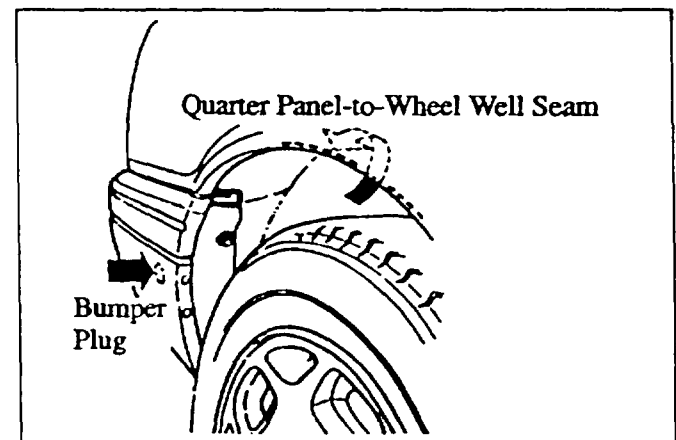

Figure 18: Bumper Plug and Wheel Test Area
- Inner wheel well-to-quarter panel seam and bumper plug. **Figure 18**.